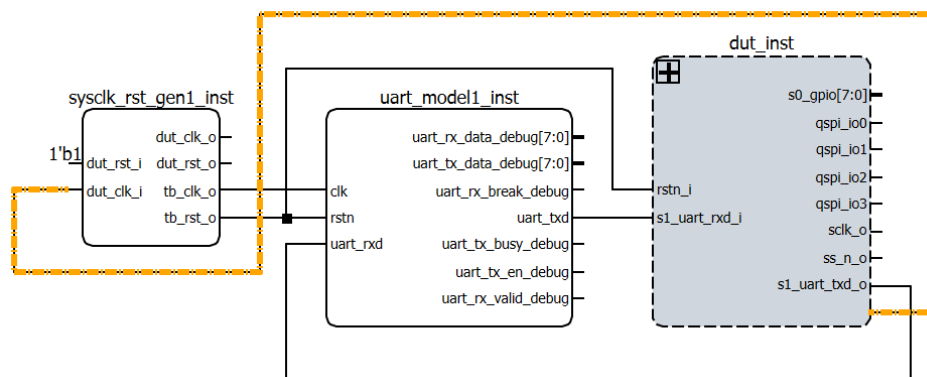

Figure 6.11. Verification Project Schematic
4. Click **Yes**. The verification project schematic is generated as shown in Figure 6.11.